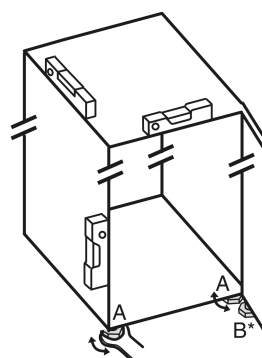

Fig. 2
- ▶ Unscrew the adjustable feet Fig. 2 (A) using the enclosed open-end spanner and a spirit level until the appliance is firmly aligned and level.
- ▶ Unscrew the adjustable foot *Fig. 2 (B)* on the swap bearing block with the enclosed open-end spanner until it rests on the floor.
- ▶ Turn the adjustable foot *Fig. 2 (B)* 90° further.